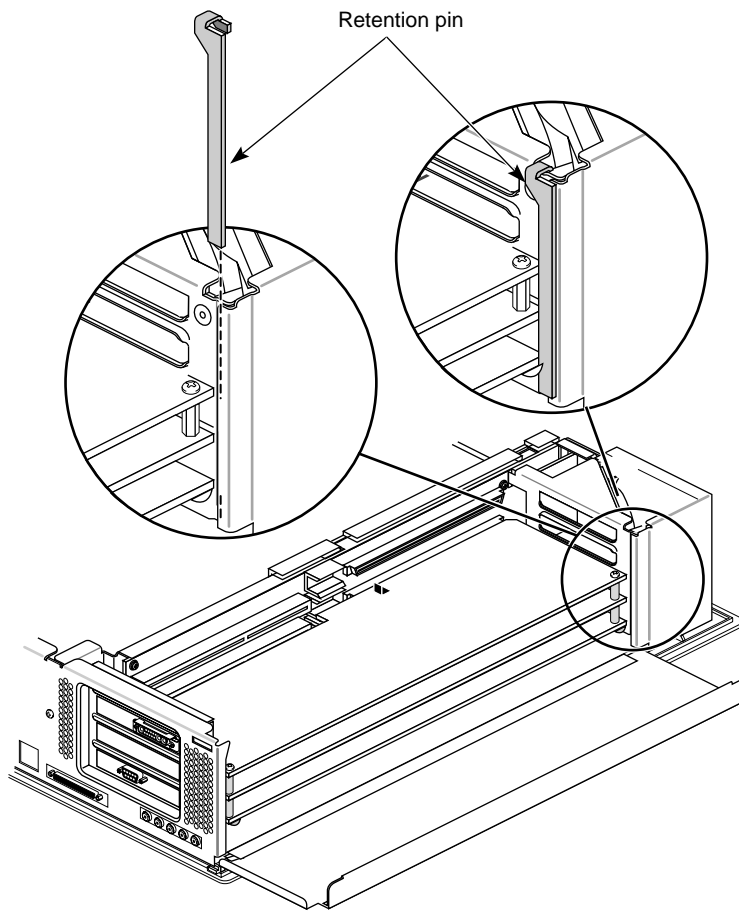

Figure 3-9 Removing the Retention Pin
3. Remove the retention pin. See Figure 3-9.